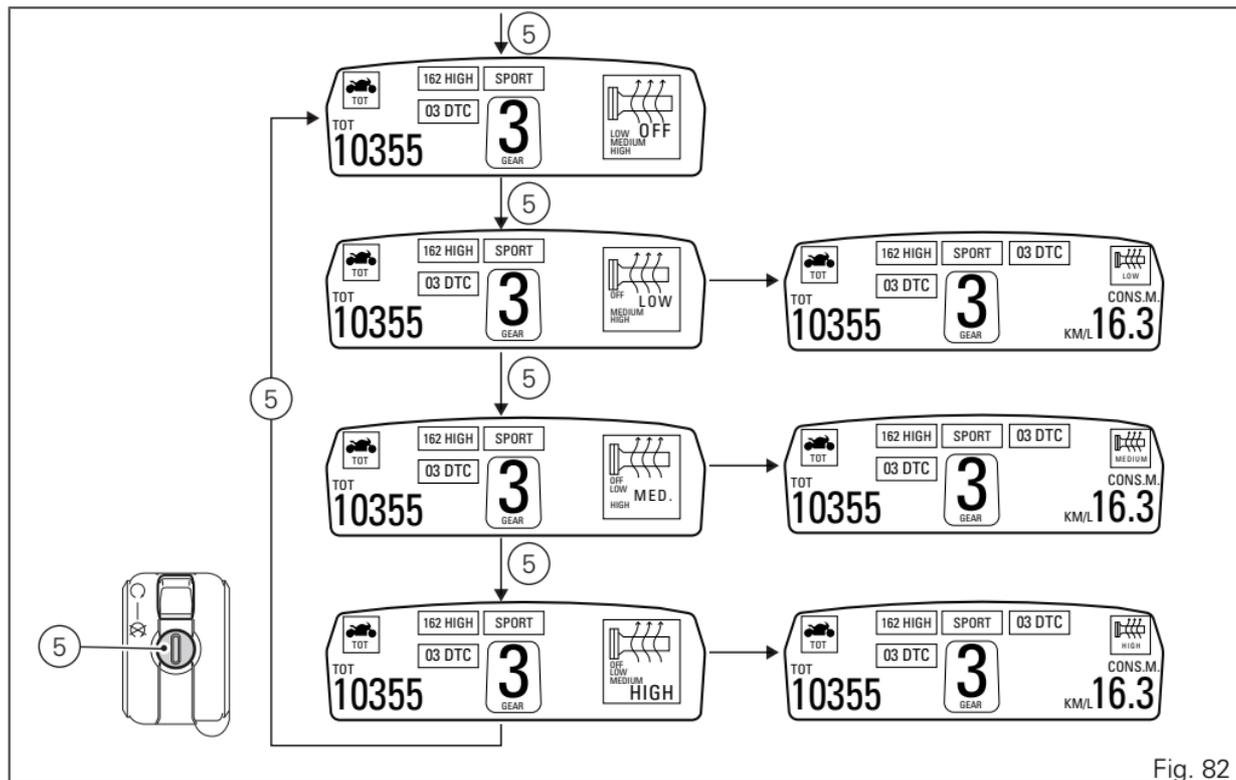

Fig. 82
- one with Menu 2 enabled (Fig. 82);